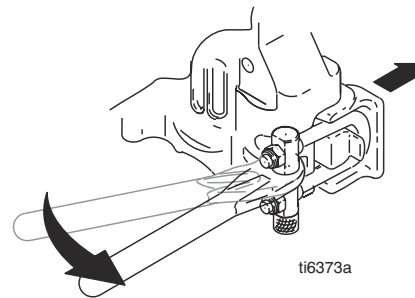

FIG. 18
7. FIG. 18. Ratchet open pump door.